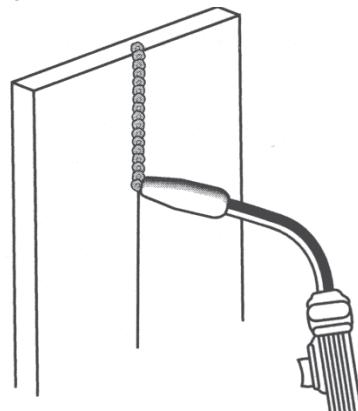

Figure 16. Vertical Position
3. The VERTICAL POSITION (Figure 16) is the next most difficult position. Pulling the gun from top to bottom may be easier for many people, but in some instances it can be difficult to prevent the puddle from running downward. Pushing the gun from bottom to top may provide better puddle control and allow slower rates of travel speed to achieve deeper penetration. When vertical welding, angle B (see HOLDING THE GUN - p.18) is usually always kept at zero, but angle A will generally range from 45 to 60 degrees to provide better puddle control.